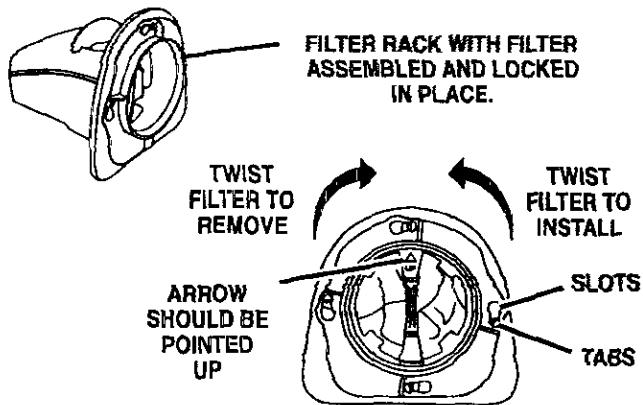

Fig. 7
- Twist the filter to unlock from the filter rack tabs and remove the filter. See Figure 7.
- Place the filter in the filter rack ensuring the slots in the filter are aligned with the tabs on the filter rack. When assembled correctly, the arrow shown on the filter should be pointed up. Twist the filter to lock in place. See Figure 7.